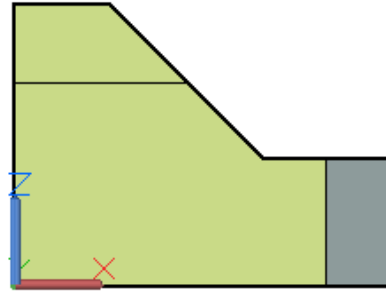

Figure Step 11
Step 11 Using what you just learned, change the current view to Front. (Figure Step 11)